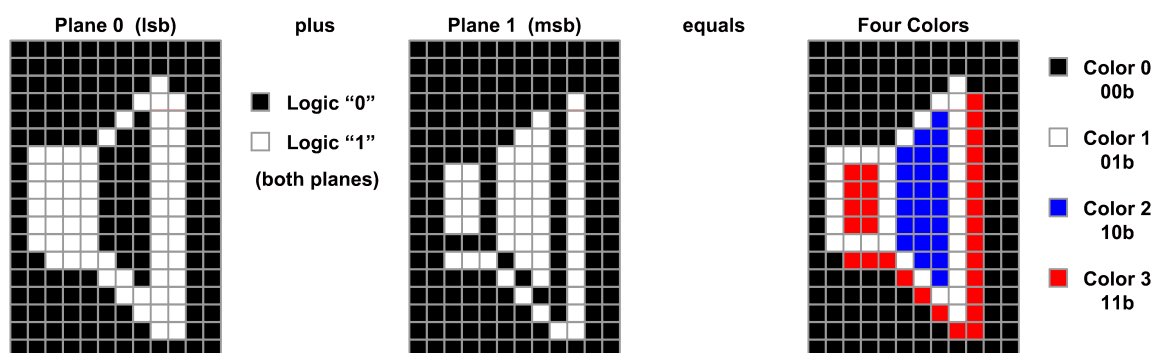

Figure 15. Four-Color Character
2. Four-color: There are a total of 128 four-color characters, in two banks of 64 (banks 3 and 7). Each pixel of the four-color character is defined by two bits of information, and thus can define four different colors, Color 0, Color 1, Color 2 and Color 3. Color 0 is defined as the “background” color. All other colors are considered “foreground” colors, although for most purposes, any of the four colors may be used in any way. Because each four-color character has two bits, the LM1247 internally has a matrix of two planes of ROM as shown in Figure 15. In that figure, dark pixels indicate a logic “1” and light pixels which indicate a logic “0”. The left side shows plane 0 which is the least significant bit and the middle figure shows plane 1 which is the most significant bit. The right side composite character formed when each pixel is represented by its two bits formed from the two planes. The color palette used in this example is “00” for white, “01” for black, “10” for blue and “11” for red.